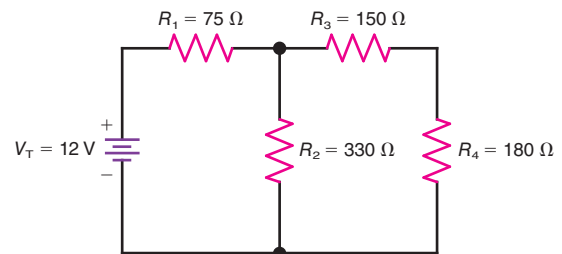

Figure 7-24
7.11 In Fig. 7-24, solve for R_T , I_T , V_1 , V_2 , V_3 , V_4 , I_1 , I_2 , I_3 , and I_4 .